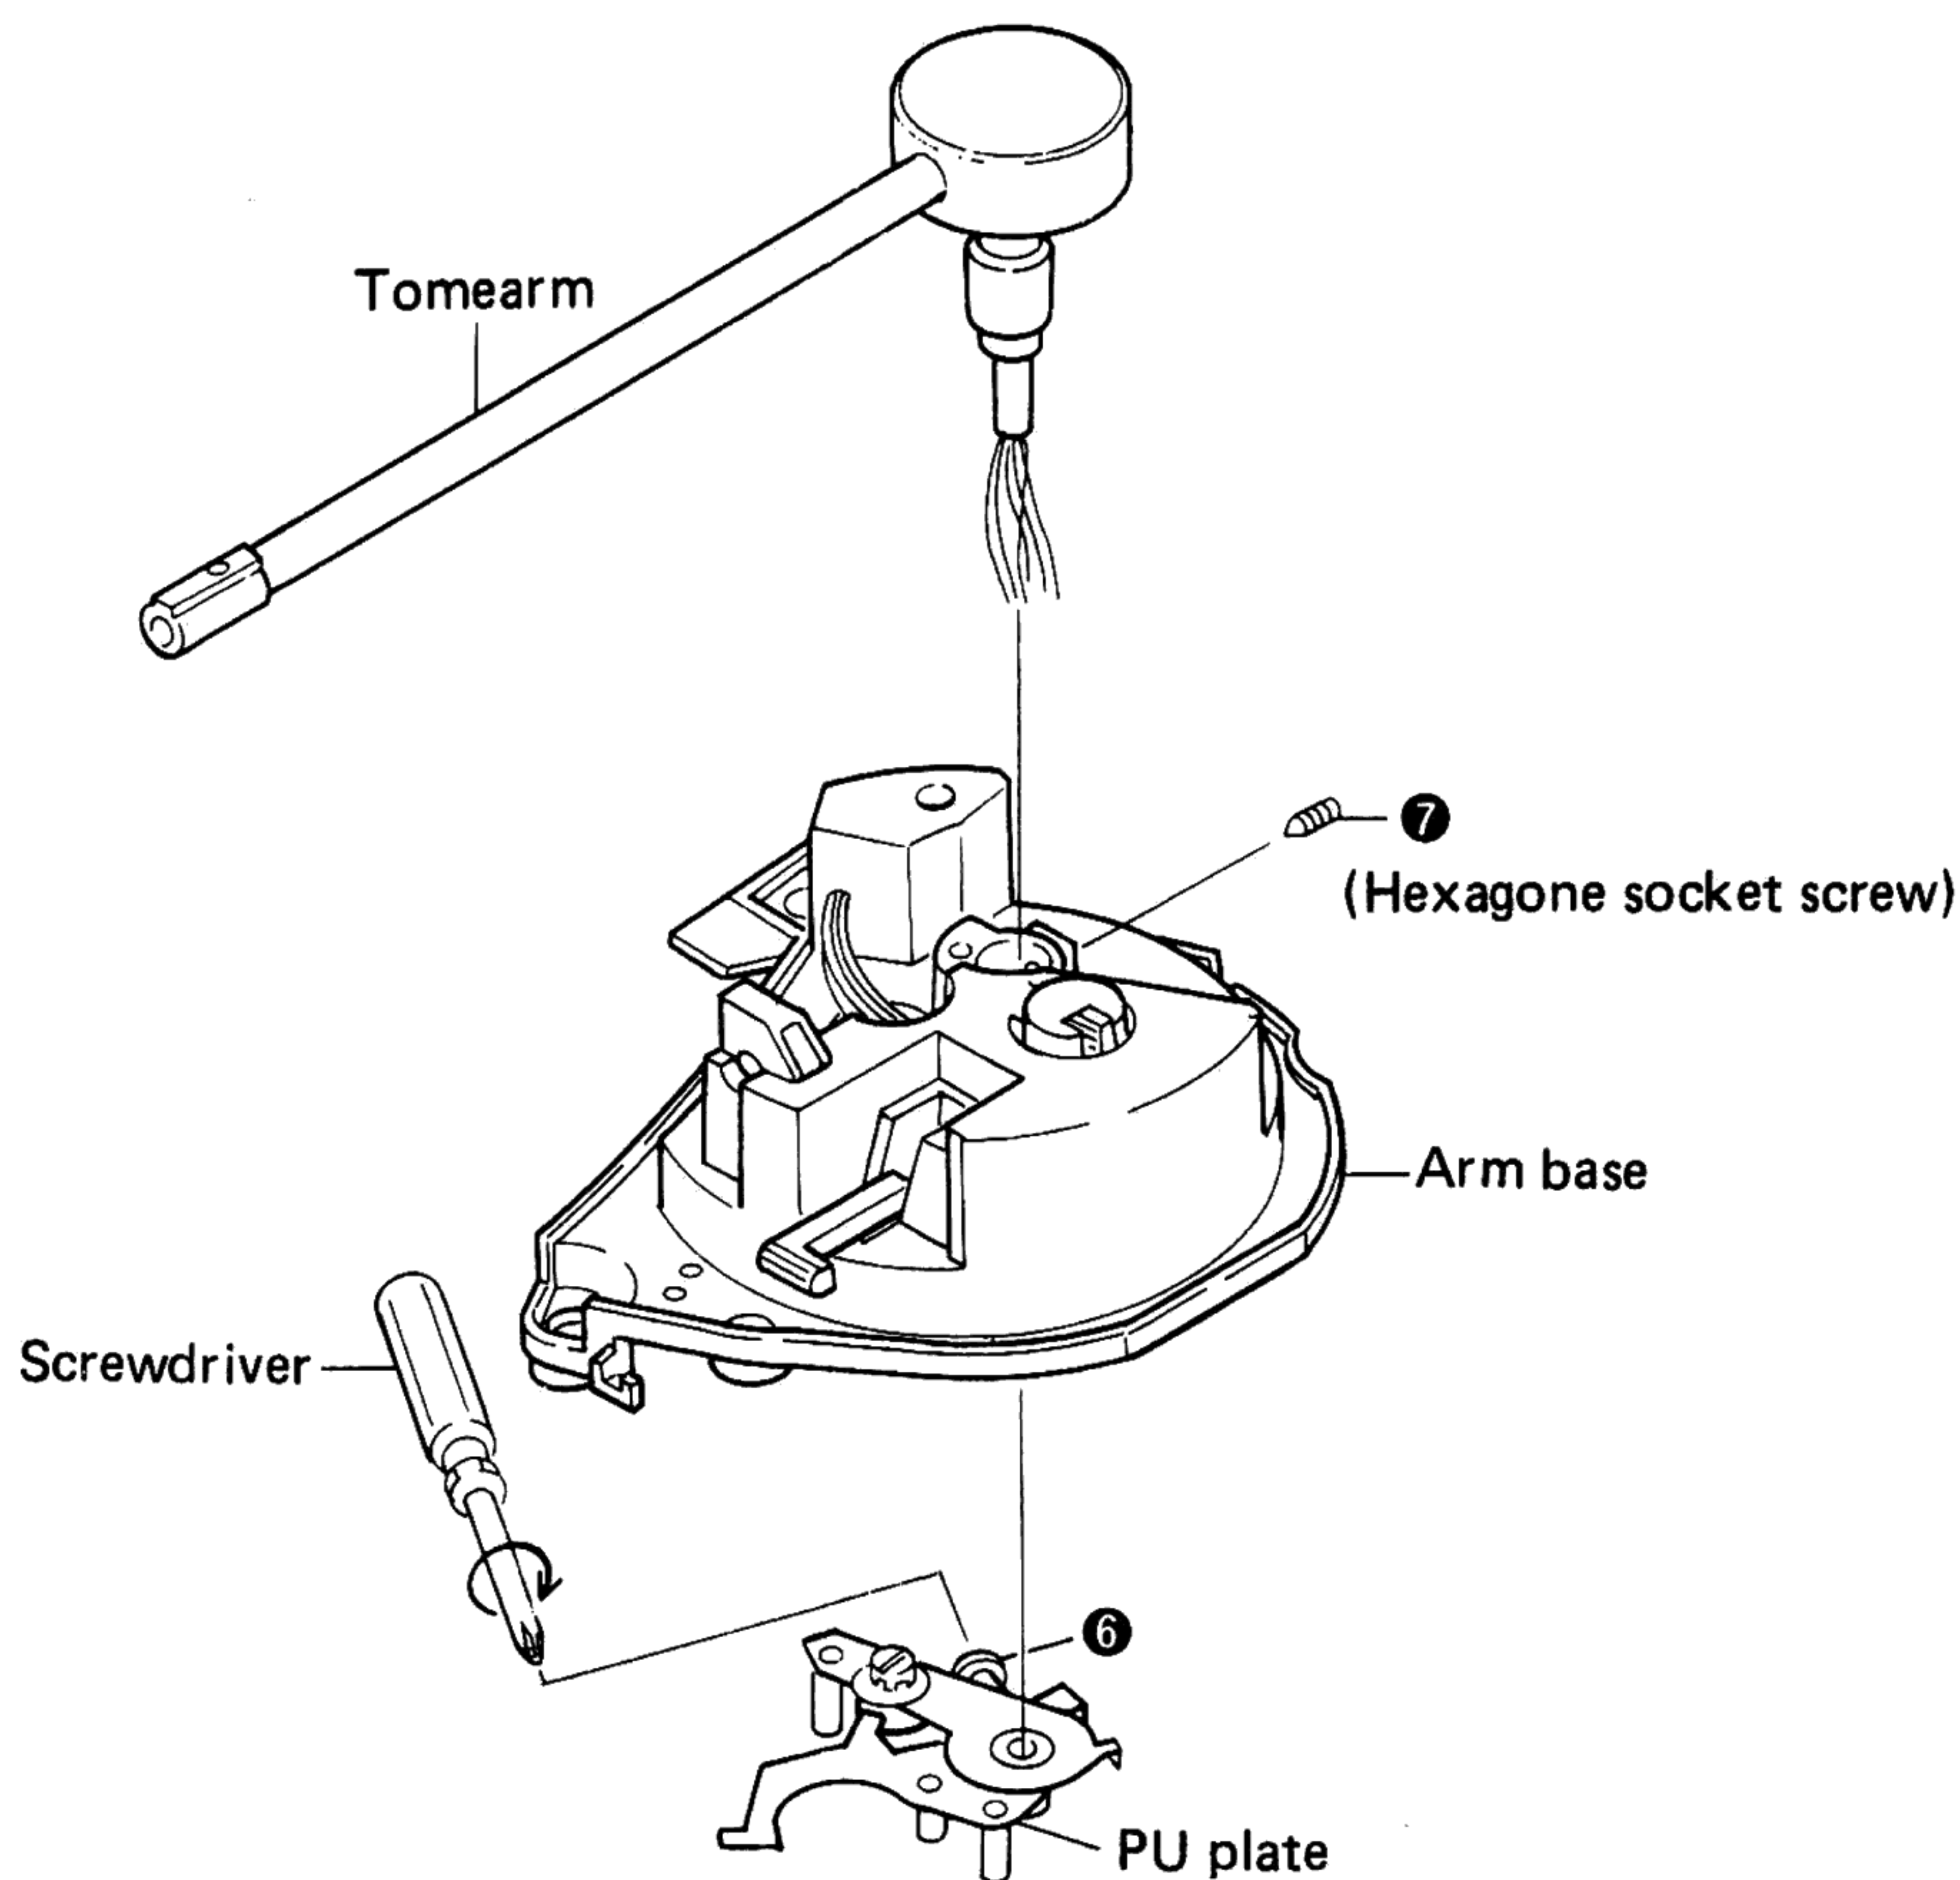

Fig. 3-3 Remove tonearm
2. Loosen the set screw ⑥ with a screwdriver to remove the PU plate under the arm base (See Fig. 3-3).
3. Undo the screw ⑦ securing the tonearm to the arm base (See Fig. 3-3).